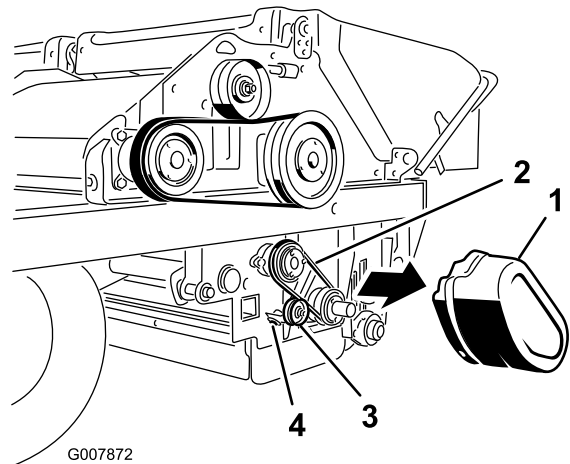

Figure 62
1. Remove the belt cover (Figure 62)
2. Loosen the nut on the idler pulley (Figure 62).
3. Push the idler pulley into the belt and tighten the idler pulley nut Figure 62).